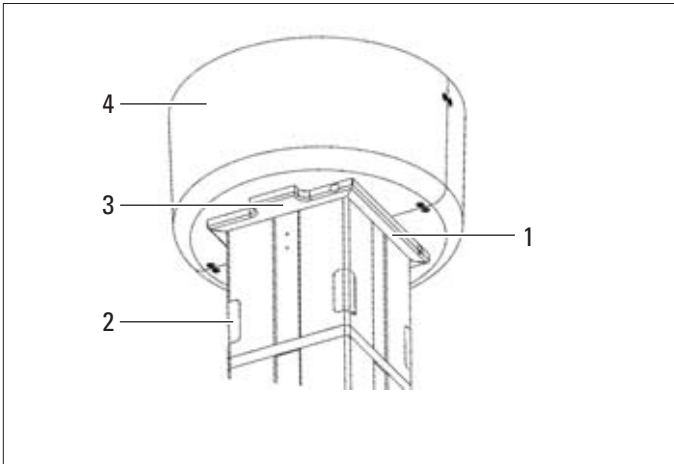

Fig. 1
- ⇒ Align the clamping strip (1) so that the projection (3) of the 4th clamping strip is positioned opposite the recess in the ceiling cover (4) (Fig. 1).